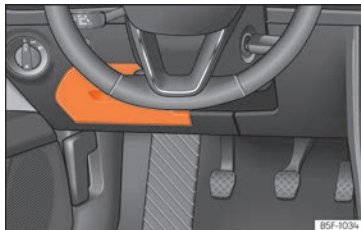

Fig. 104 On the dashboard on the driver side: lid of the fuse box.
- **Open:** fold the cover down »» **Fig. 104.**